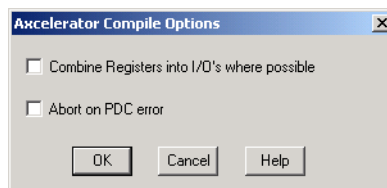
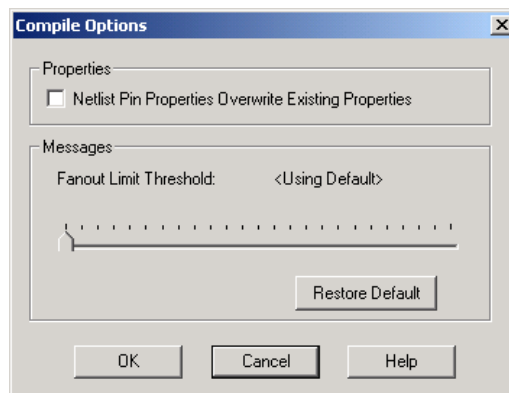

Figure 2-21. Compile Options Dialog Box, Accelerator Family
Figure 2-22. Compile Options Dialog Box, SX Family
1. **From the Options menu, click *Compile*.** The compile option dialog box opens, as shown in Figure 2-21 and as shown in Figure 2-22. Options available from this dialog box are dependent upon your family.